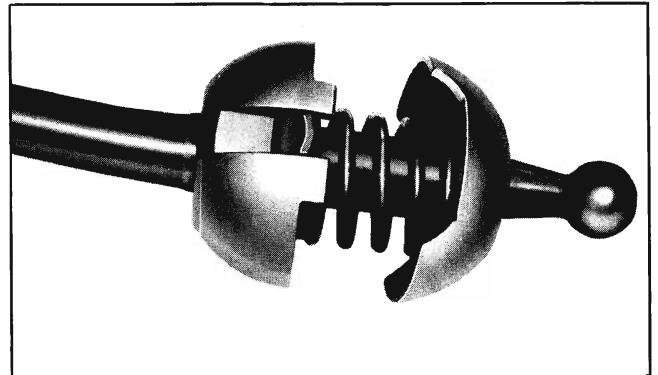

Fig. 7-17 Lining-up Spring Cup
5. Install spring and spring cup. Notches in spring cup must line up with control lever as shown in Fig. 7-17.